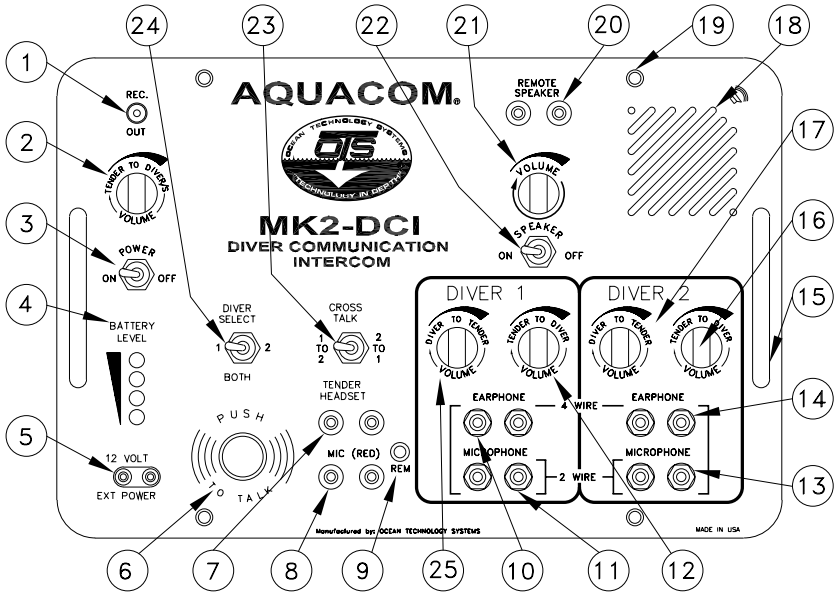

Figure 1. MK2-DCI Two-Diver Air Intercom
| Figure 1. MK2-DCI Two-Diver Air Intercom | 4 |
See Figure 1 for a panel description.
INSTALLATION OF 6-VOLT BATTERIES: Locate and loosen the four screws located on the front panel (Fig. 1, #19). These screws are captive and will not come off the front panel. Remove front panel from housing. Remove cotter pin from battery strap (Fig. 4, #3). Remove battery strap from battery housing (Fig. 4, #2). Insert both 6-volt, spring-type lantern batteries, springs facing toward battery PC board (Fig. 4, #4). Verify that the batteries are secure on the bottom of the housing and the backs are being held by the back plate. You will notice the batteries can be installed with springs in any direction on the PC board (Fig. 5). After batteries are installed, replace the battery strap and cotter pin, dress the wires so they are not pinched when you put the front panel back in place, replace the panel, and tighten the four screws (do not overtighten).
- 3) **ALTERNATE POWER SOURCE:** The external receptacle (Fig. 1, #5) provides an easy terminal for a marine or automotive 12-volt DC source. The power source should provide 12 volts and a minimum of 3 amps capacity. The
- 2) When in the four-wire mode, you must use a headset with a boom microphone, and the Diver Select switch must be in the “BOTH” position. If feedback is present, switch off the front panel speaker (Fig. 1, #24).